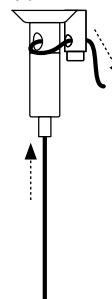

Figure 3: Shorten Steel Cables
3. Push the nozzle of the steel wire fastener and reduce or add length of steel wire as required. [Figure 3 and 4]